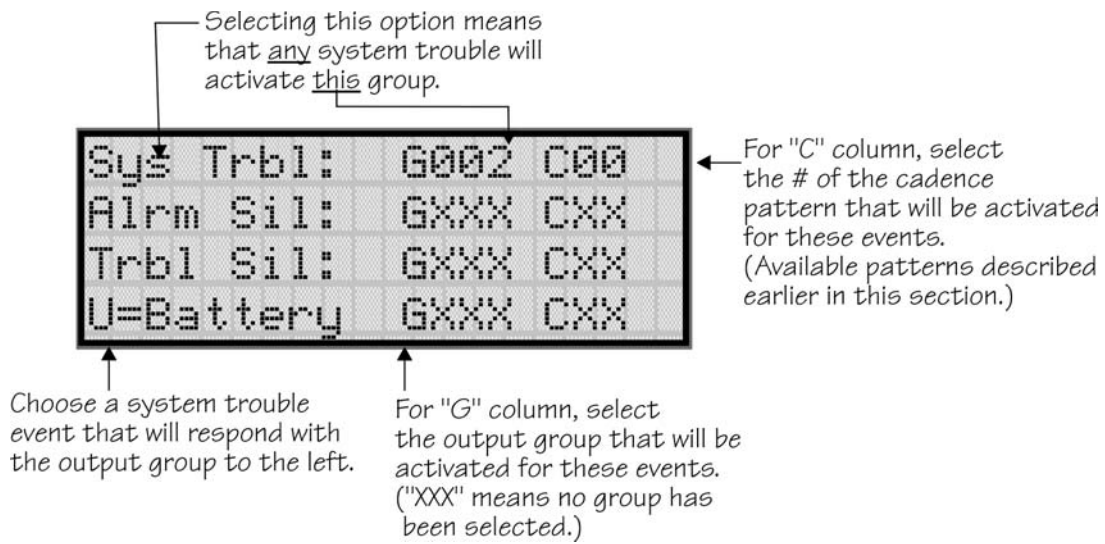

Figure 7-14 System Trouble Event Mapping Example
6. Press for Trouble Events. A screen similar to the one in Figure 7-14 will display. Select a group and a cadence pattern for each event as needed for your application. The U: field is for a user-specified trouble condition. You can program an output group and cadence pattern for any of the following events: